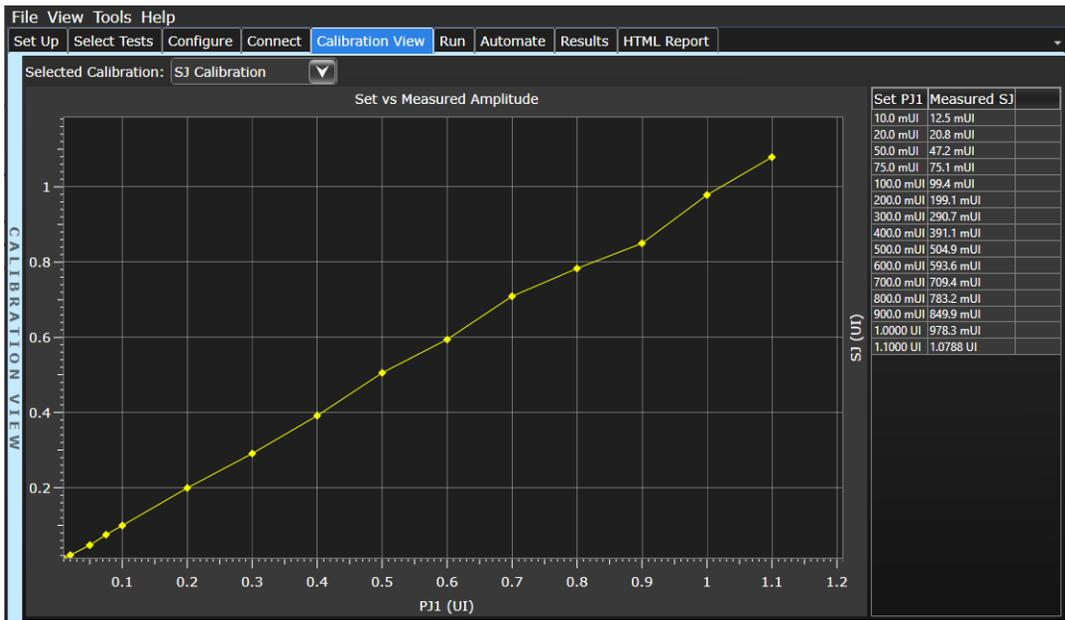

Figure 42 SJ Calibration calibrated data in Calibration View tab
- measured SJ versus the set PJ1 in graphical and tabular formats in the Calibration View tab (Figure 42)